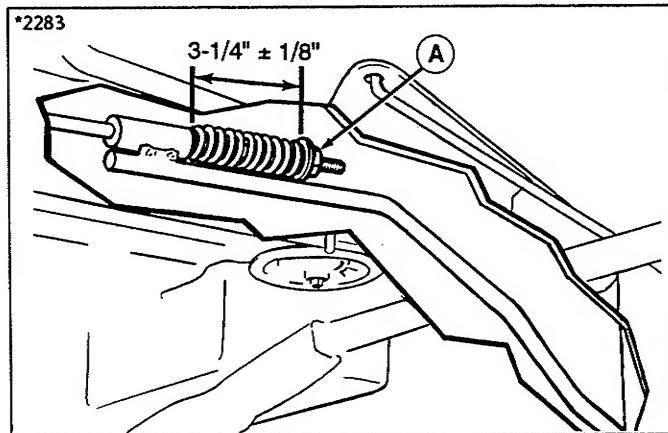

Figure 36. Gear Models
2. The spring should be compressed to 3-1/4" ($\pm 1/8"$) Turn adjustment nut (A, figure 36) as necessary for correct spring length.